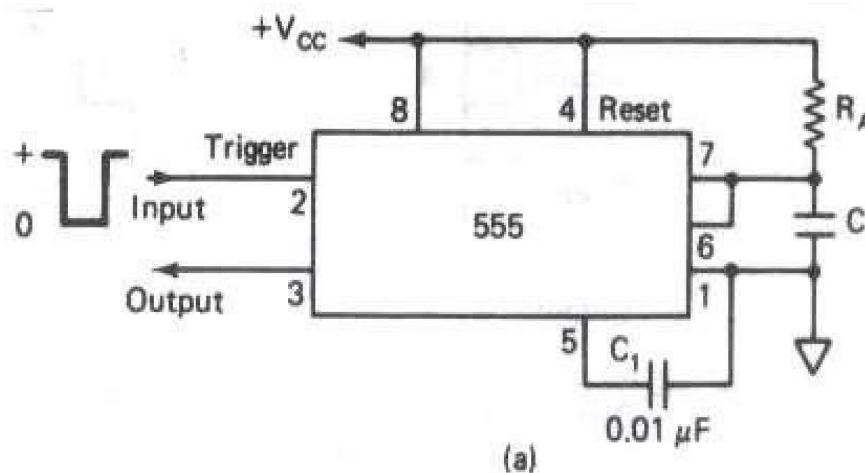

Figure 2.2(a) IC555 as monostable multivibrator
The monostable circuit has only one stable state (output low), hence the name mono- stable. Normally, the output of the mono- stable multivibrator is low. Fig 2.2
555 configured for monostable operation. To better explain the circuit's operation, the internal block diagram is included in Fig 2.2(b).
According to Fig 2.2(b), initially when the output is low, that is, the circuit is in a stable state, transistor Q is on and capacitor C is shorted out to ground. However, upon application of a negative trigger pulse to pin 2, transistor Q is turned off, which releases the short circuit across the external capacitor C and drives the output high. The capacitor C now starts charging up toward V_{CC} through R_A .
Fig.2.2 (b) 555 connected as a Monostable Multivibrator (c) input and output waveforms Where RA is in ohms and C is in farads. Figure 2.2(c) shows a graph of the various combinations of RA and C necessary to produce desired time delays. Note that this graph can only be used as a guideline and gives only the approximate value of RA and C for a given time delay. Once triggered, the circuit's output will remain in the high state until the set time T₁ elapses. The output will not change its state even if an input trigger is applied again during this time interval T. However, the circuit can be reset during the timing cycle by applying a negative pulse to the reset terminal. The output will then remain in the low state until a trigger is again applied.
- (a) **Frequency divider:** The monostable multivibrator of Figure 2.2(a) can be used as a frequency divider by adjusting the length of the timing cycle t_p , with respect to the time period T of the trigger input signal applied to pin 2. To use monostable multivibrator as a divide-by-2 circuit, the timing interval t_p must be slightly larger than the time period T of the trigger input signal, as shown in Figure 2.4. By the same concept, to use the monostable multivibrator as a divide-by-3 circuit, t_p must be slightly larger than twice the period of the input trigger signal, and so on. The frequency-divider application is possible because the monostable multivibrator cannot be triggered during the timing cycle.